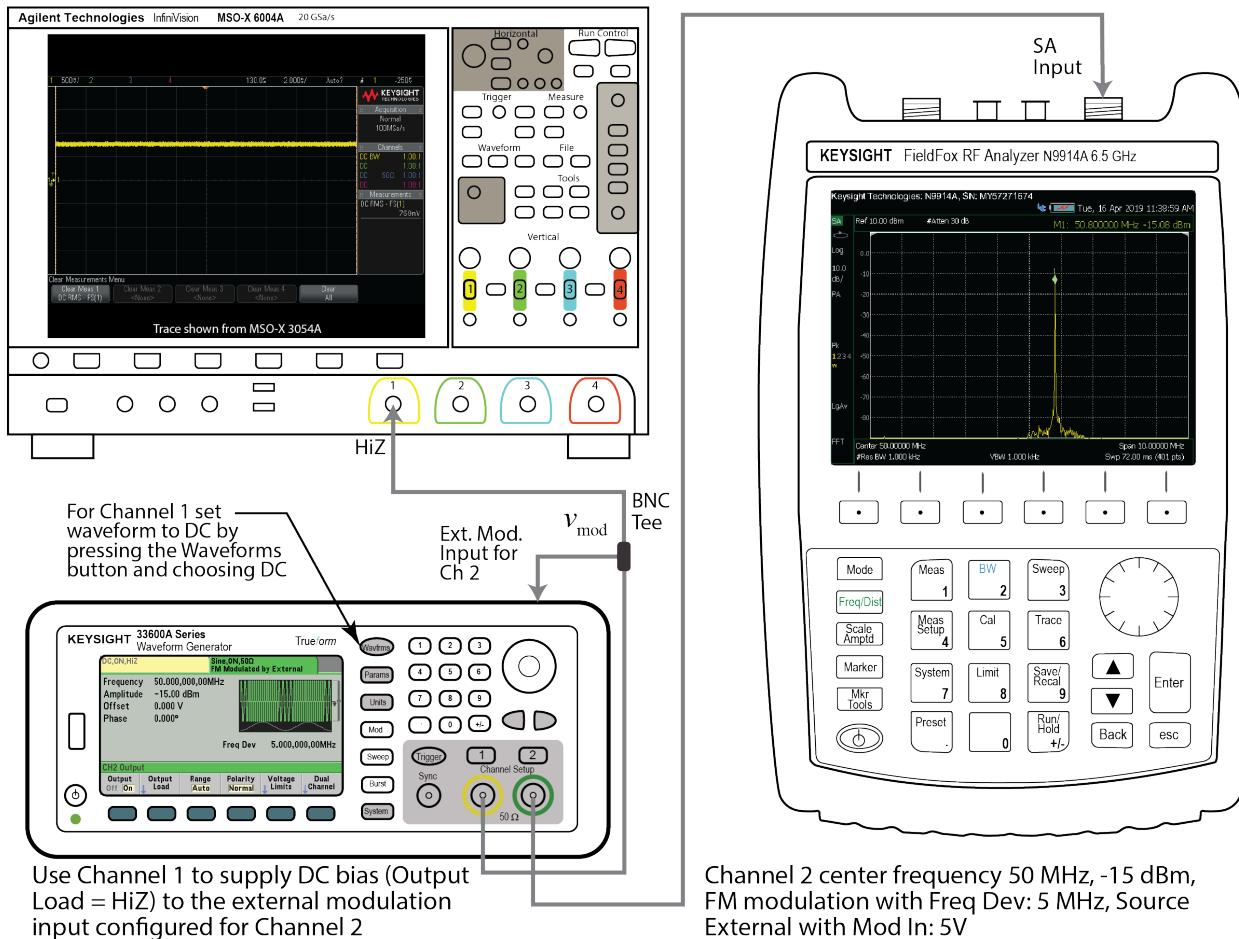
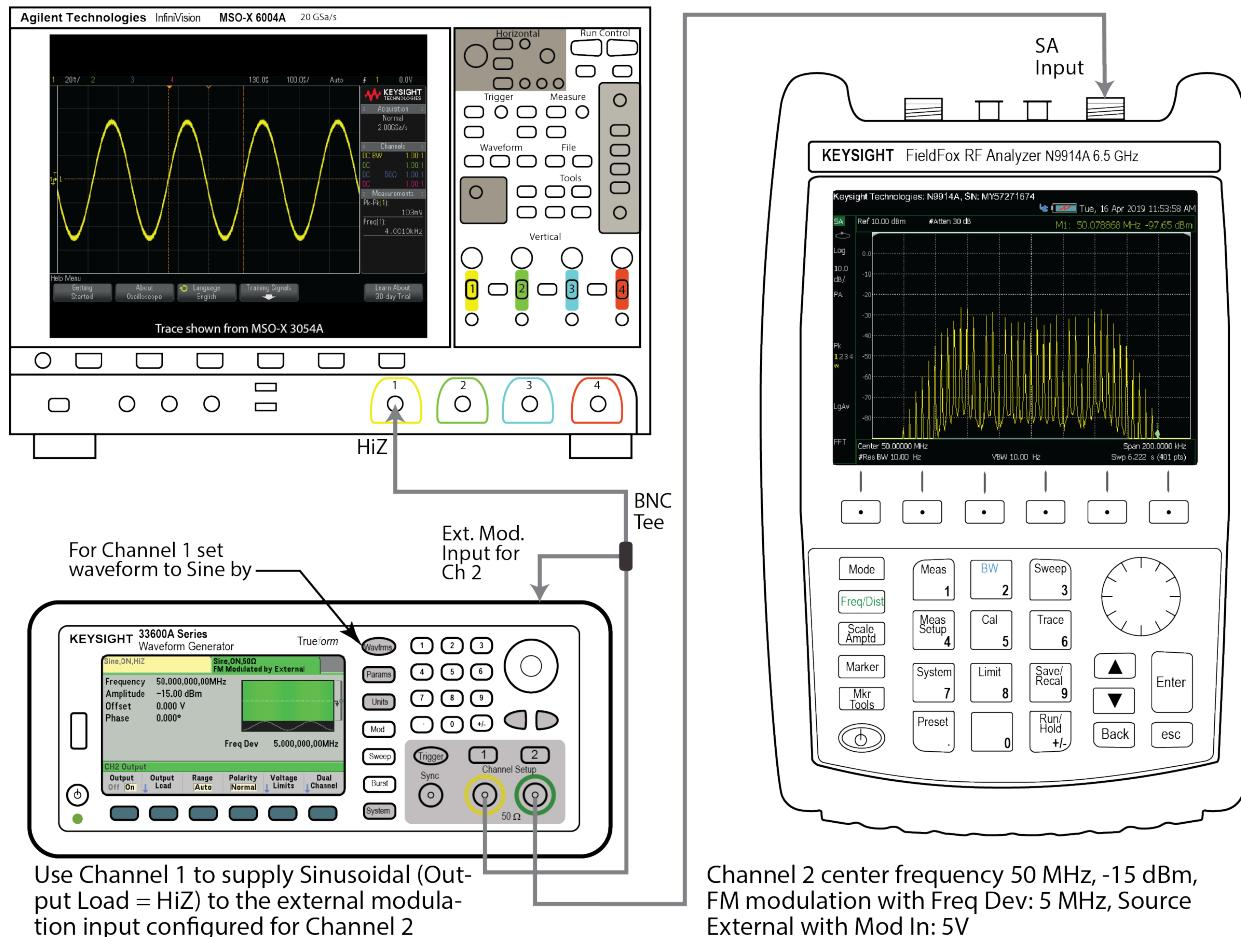

Figure 2: Configuring Channel 2 of the Keysight 33600A as a VCO and using Channel 1 as an adjustable DC source to then obtain the a VCO *tuning curve*.
Figure 4: Sinusoidal FM using the combination of the 33600A Channel 2 as a VCO and the 33600A Channel 1 as a modulation source.
In this first exercise you will characterize Channel 2 of the Keysight 33600A as a VCO. Configure Channel 1 of the 33600A as a variable voltage source to serve as an input to Channel 2. Note a bench power supply could also be used for this purpose, but the fact that one of the waveforms produced by the 33600A is DC is very convenient. Figure 2 depicts the setup with Channel 1 first set to produce a variable *DC* waveform. Second, Channel 2 is setup to produce a 50 MHz sinusoid at -15 dBm. It becomes a VCO by setting the generator for FM modulation using external modulation via the rear panel connector. On the front panel of the 33600A set the modulation mode (*Mod* button) to FM and then set *Freq Dev* = 5 MHz and finally configure *Source External* as *Mod In* = 5V. When in external FM mode the deviation value is no longer the peak deviation, instead it is a combination of *Freq Dev*, *Mod IN*, and the amplitude of external input voltage that controls the deviation of the Channel 2 source. The applied voltage moves the frequency of the source above and below the nominal center frequency of 50 MHz. Reference all data that you take in the lab to the rear panel input, hereafter referred to as v_{mod} .
In Figure 2 I also show the scope attached to v_{mod} so you can check the DC voltage and later the signal applied to the VCO input. Note for the DC measurements you may want to use the bench DVM to measure the control voltage. To make the voltage display on Channel 1 of the 33600A be sure to set the output load to HiZ.
1. Connect the output of the Keysight 33600A function generator Channel 2 to the Keysight N9914A spectrum analyzer. Continue to use a carrier frequency of 50 MHz and center the carrier signal on the analyzer screen. Set the frequency span to about 200 kHz. The general setup is shown in Figure 4 as a continuation of Figure 2.